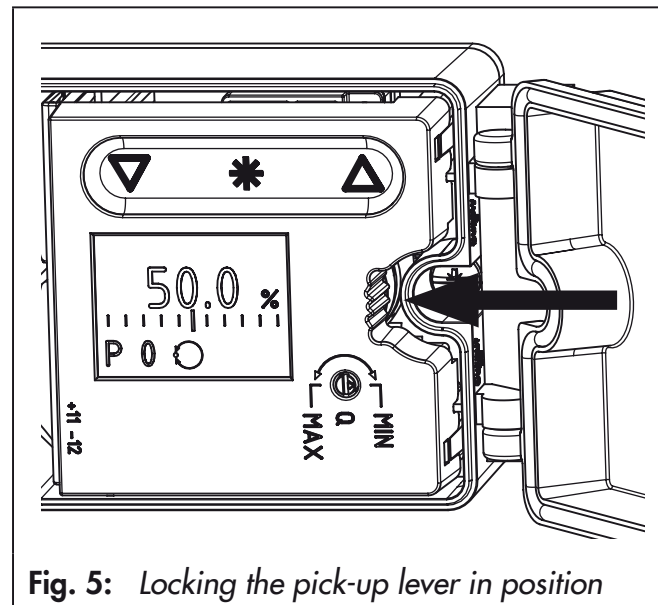
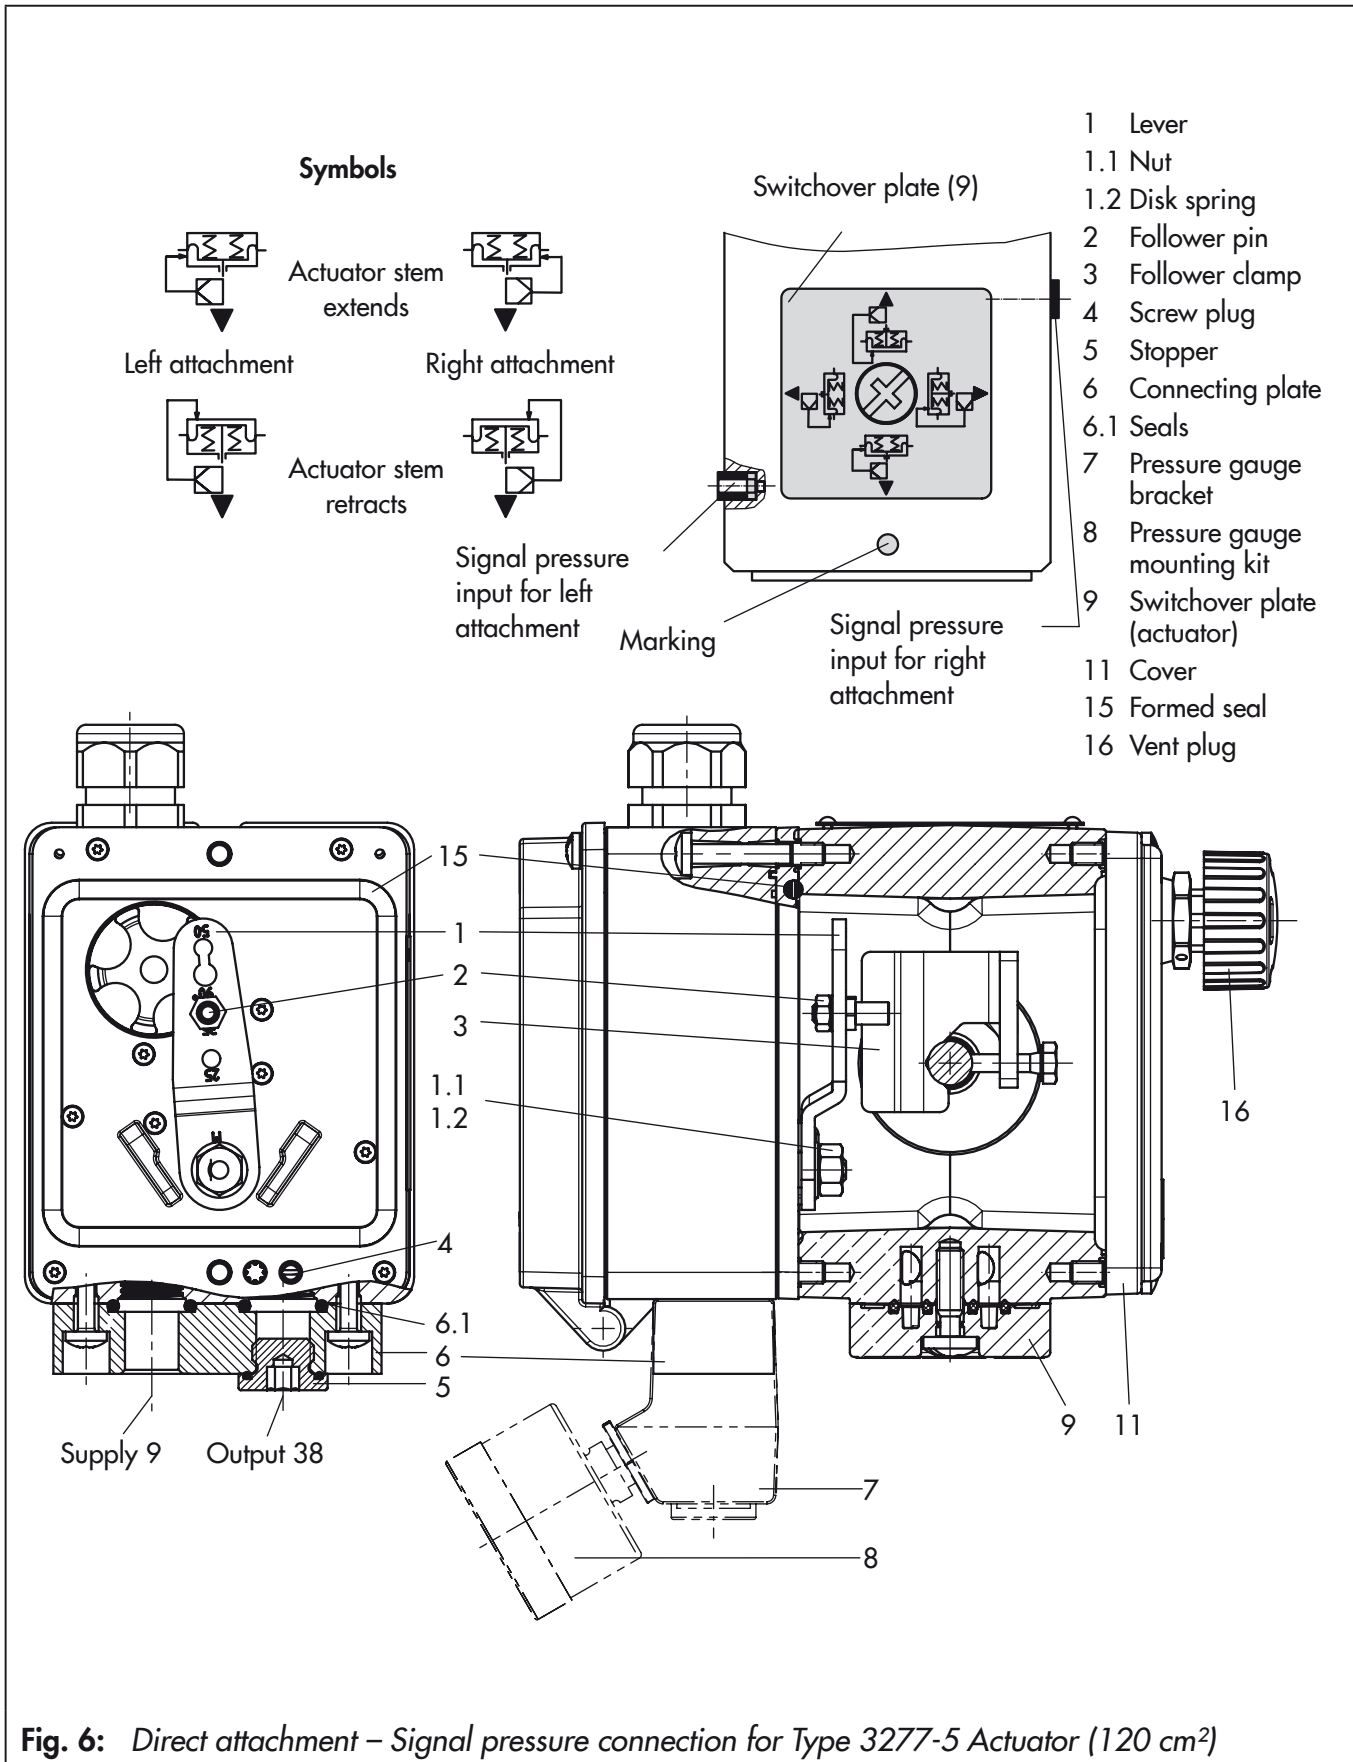
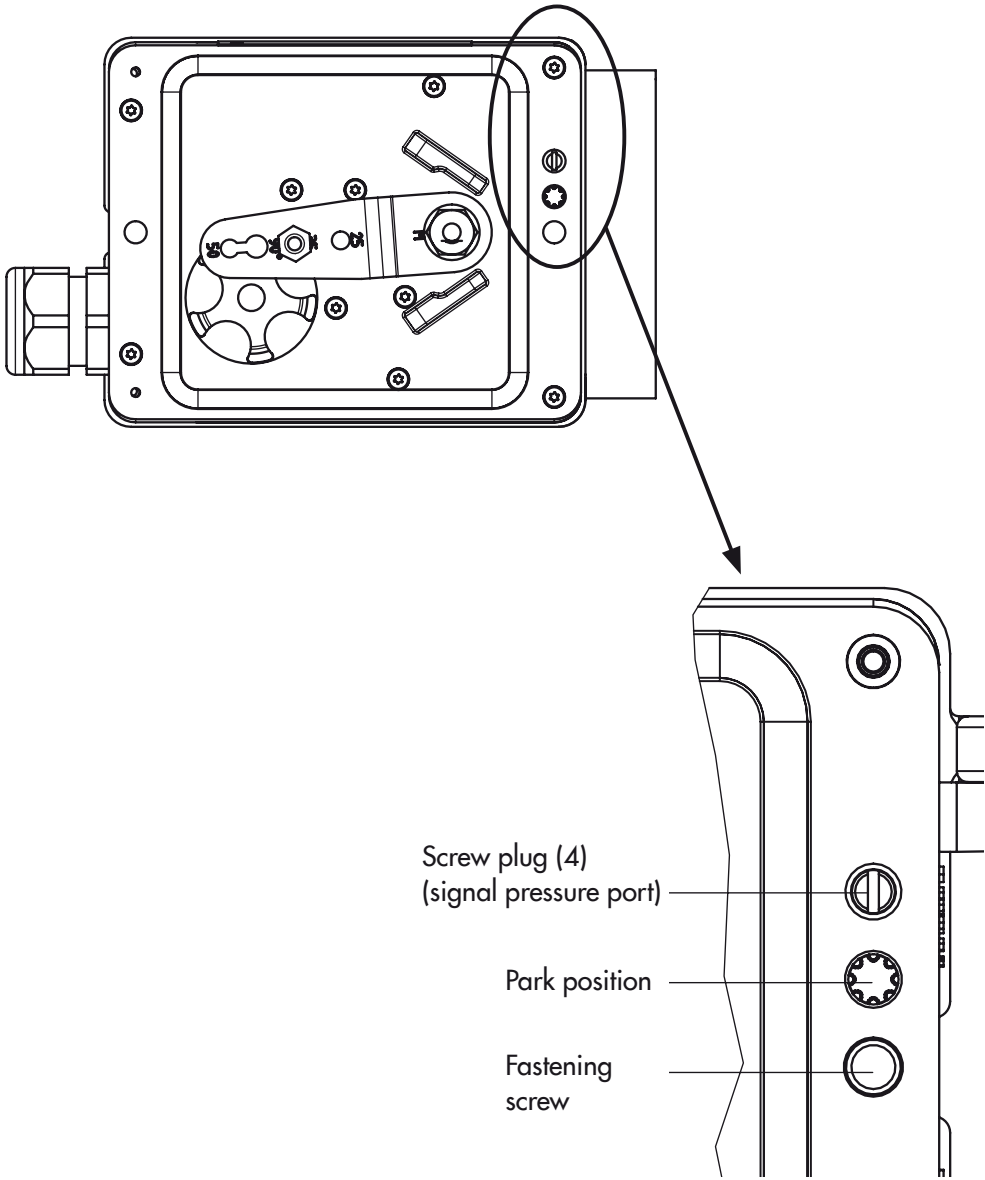

Fig. 5: Locking the pick-up lever in position
Fig. 6: Direct attachment – Signal pressure connection for Type 3277-5 Actuator (120 cm²)
Fig. 8: Signal pressure port and park position for screw plug
- Depending on the fail-safe action of the actuator "actuator stem extends" or "actuator stem retracts", first attach the switchover plate (9) to the actuator yoke (while aligning it with the corresponding symbol for left or right attachment according to the marking, see Fig. 6).
1. Mount connecting plate (6) or pressure gauge bracket (7) with pressure gauges on the positioner, making sure the two seals (6.1) are seated properly.
2. Screw the screw plug (4) on the back of the positioner into the hole below it (park position) (see Fig. 8) and seal the signal pressure output on the connecting plate (6) or on the pressure gauge bracket (7) with the stopper (5) included in the accessories.
3. Place follower clamp (3) on the actuator stem, align it and screw tight so that the mounting screw is located in the groove of the actuator stem.
4. **15 mm travel:** Keep the follower pin (2) on the M lever (1) on the back of the positioner in the pin position 35 (delivered state). **7.5 mm travel:** Remove the follower pin (2) from the pin position 35, reposition it in the hole for pin position 25 and screw tight.
5. Insert formed seal (15) into the groove of the positioner housing.
6. Place positioner on the actuator in such a manner that the follower pin (2) rests on top of the follower clamp (3). While doing this, press on the ribbed area shown in Fig. 5 to lock the pick-up lever in the top position. The lever (1) must rest on the follower clamp with spring force.
If a solenoid valve is additionally mounted onto the actuator, the signal pressure port at the back of the positioner must be sealed (see Fig. 8). To do this, unscrew the screw plug located in the middle hole (screw plug in park position) and screw it into the signal pressure port to seal it.
2. Insert formed seal (15) in the groove of the positioner housing.
3. Place positioner on the actuator in such a manner that the pin (2) rests on top of the follower clamp (3).
4. While doing this, press on the ribbed area to lock the lever in the top position (see Fig. 5).
→ Thread the screw plug on the positioner into the hole below (park position) (see Fig. 8 on page 31).